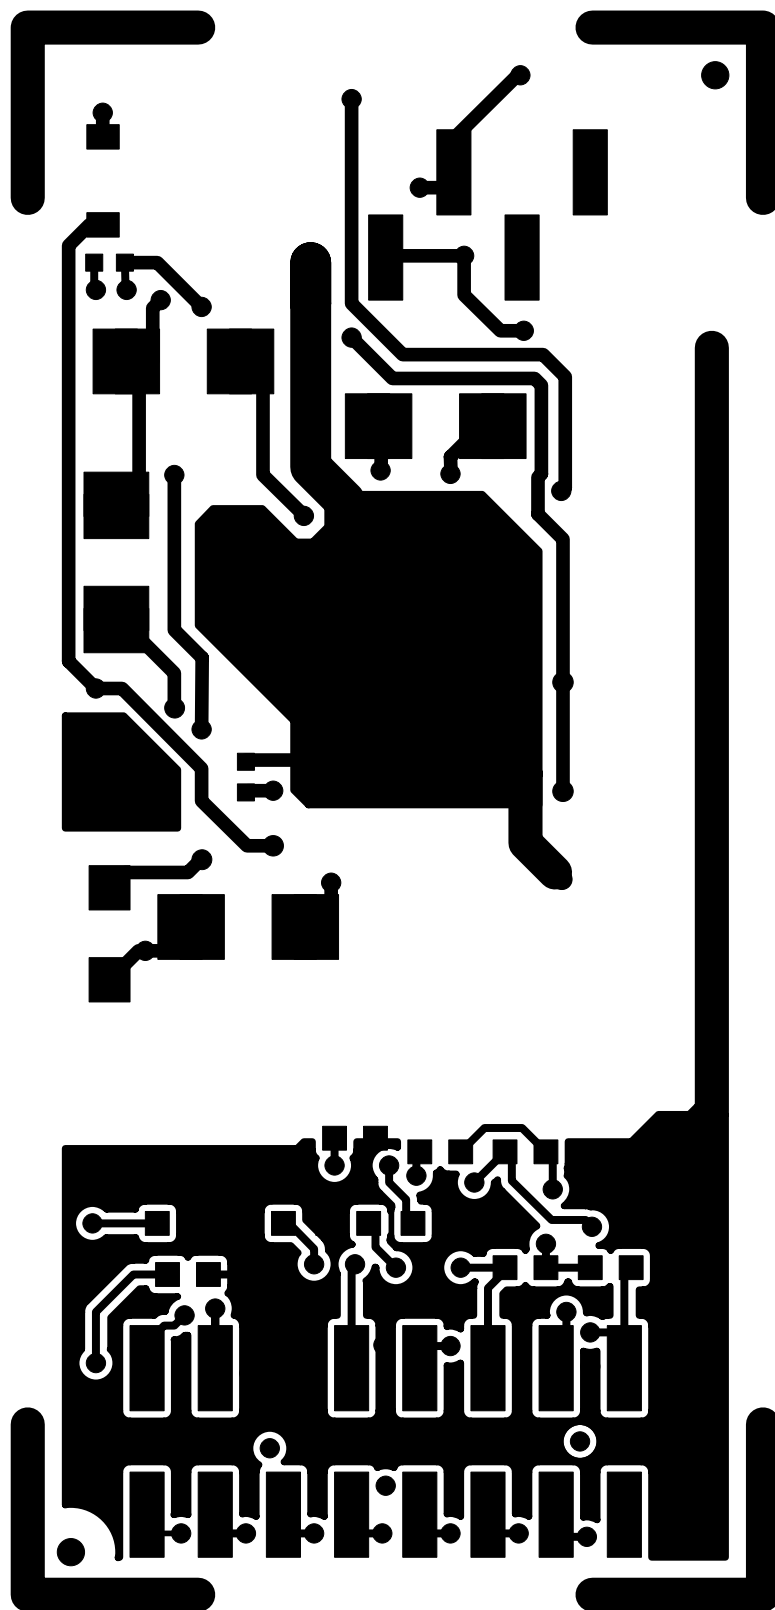

Figure 23. Daughter Card Solder Side Layout
- Updated Figure 23, "Daughter Card Solder Side Layout," on page 27